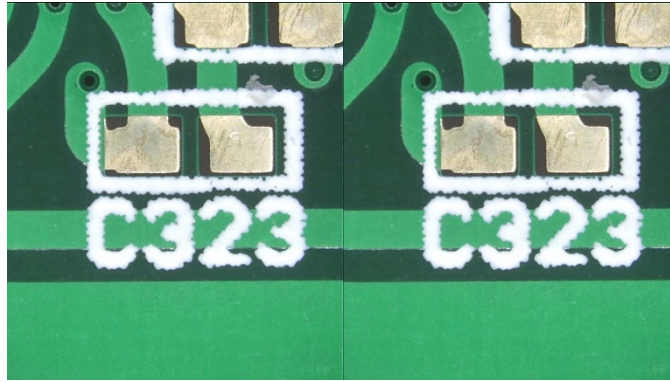

Fig 5-55 Left Side Compare Mode
- Left Side Comparison : Enable/Disable the Left Side Compare mode. The loaded image is on left side. Right side image is live preview image. Below Fig 5-55: Transparency: 100%, Image Location: 100%, Offset Ratio: 0%, Image Ratio: 50%.
- Transparency : Adjust the transparent level when in comparison mode. The Default level is 50%, drag the bar to adjust level. Fig 5-54 is the transparency in 15%, Fig 5-55 is in 75%.